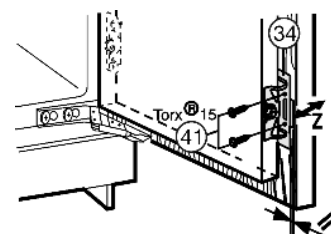

Fig. 28
- ▶ Screw the appliance door to the unit door with screws Fig. 28 (41) passed through the mounting brackets Fig. 28 (34).